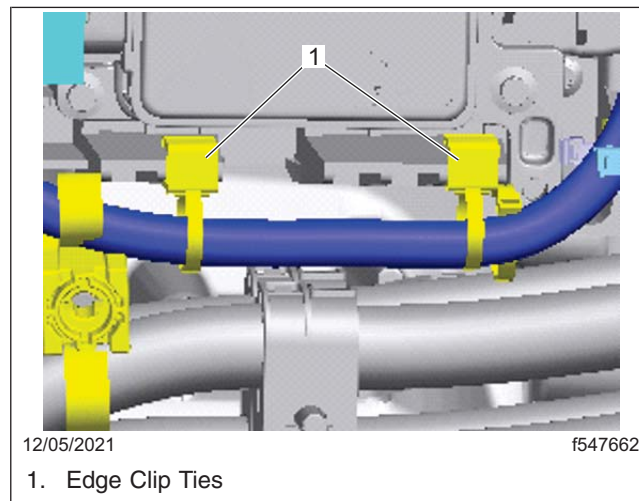

Fig. 5, Attaching the Harness to the Shift Controller with Edge Clip Ties
- 5.3 Secure the harness to the shift controller under the TCU, using the edge clip ties, as shown in **Fig. 5**.